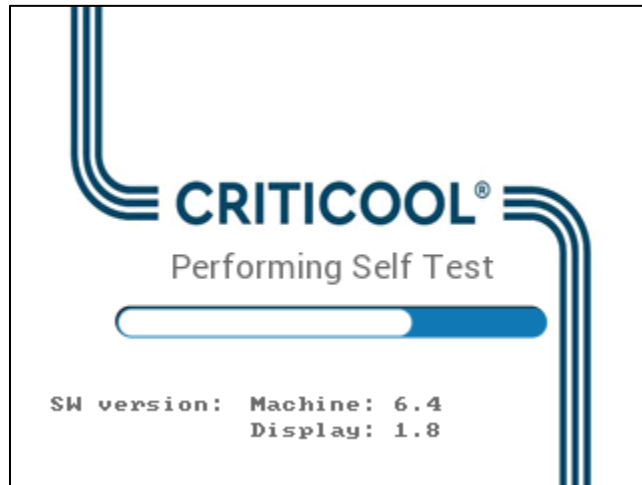

Figure 9: Self-Test Screen
1. Turn the main power switch upwards to the ON position. The Self-Test panel is displayed (see Figure 9). At the end of the Self-Test, the alarm is automatically activated.